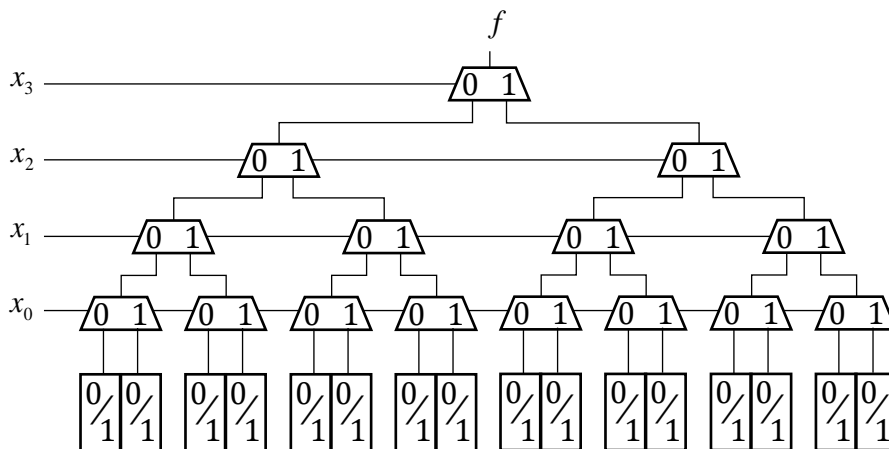

Fig. 2
- (c) Figure 2 shows the circuit for a 4-LUT.